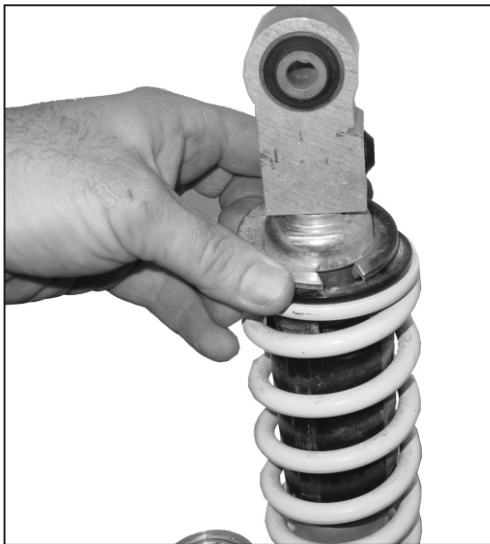

Fig. 4-- Remove the retainer. With the preload backed off the stock spring, it should be possible to remove the retainer by hand.
6. Remove the metal retainer, plastic sleeve and spring from the shock. Break loose the pre-load nuts and remove them. (Fig. 4).